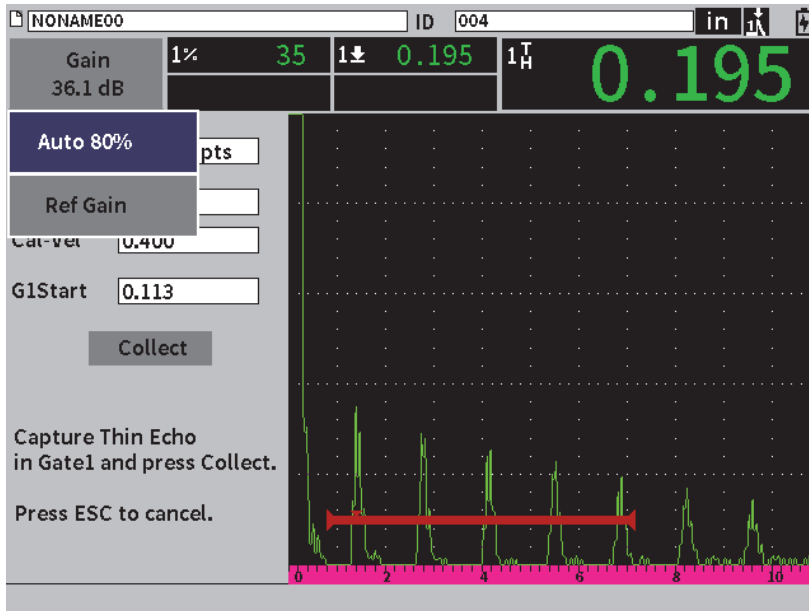

Figure 8-4 Calibration — Ready to Auto 80% on thin echo
8. Press the Tab key to highlight the **Gain** adjustment box, and then complete the **Auto 80%** procedure (see Figure 8-4 on page 96). See “Using the Auto XX% Feature” on page 60 for details on the **Auto XX%** procedure.